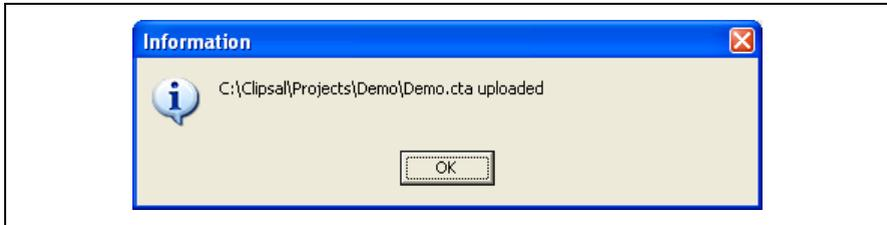

Figure 25 – The project has been successfully transferred to the C-Touch Colour
17) Depending on its size, the project may take from one to many seconds to transfer. Once the project has been successfully transferred, you will be advised that the project has been uploaded (Figure 25).